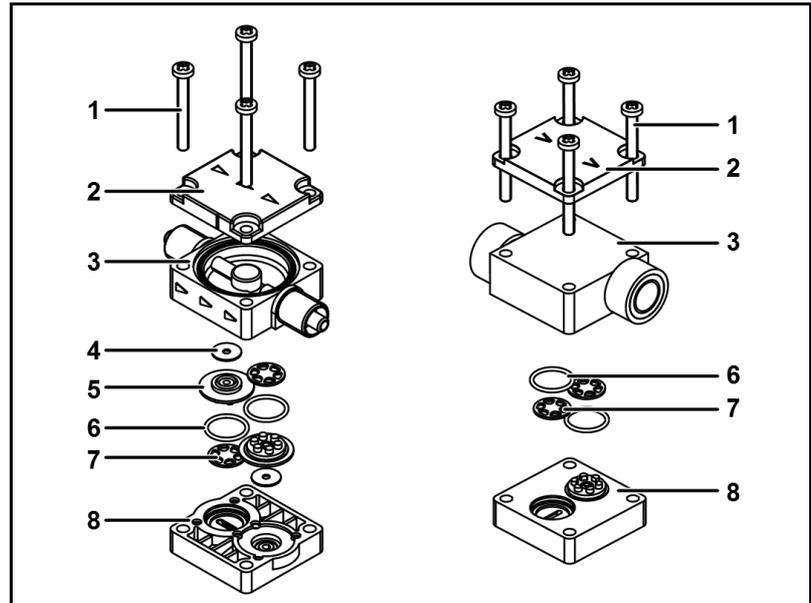

Fig. 57: Head, KT, TT
2. Pull apart the cover plate (2), connecting plate (3) and spacer plate (8).
3. Carefully remove the valve seats (5), remove sealing washers (4) (not present in FT head, see Fig. 57 at right), O rings (6) and valve disk (7).